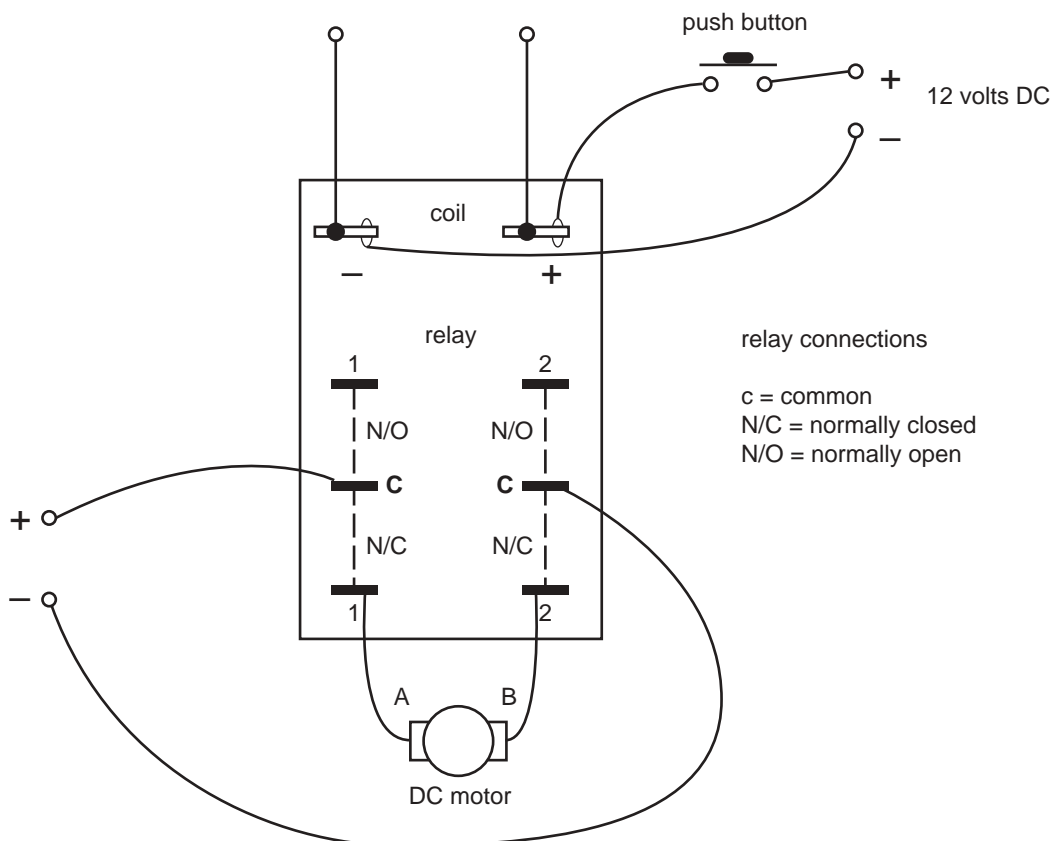

Figure 7
- a. Figure 7 shows the relay connections. Draw in **two** additional connections on the relay that will reverse the DC motor when the button is pushed.
- b. On Figure 7, draw between the two connections a standard diode symbol, **connected in reverse bias to supply**.